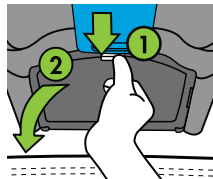

Figure 59
- Open LATCH Bin Door by pressing and holding top of Lock Tab then rotating LATCH Bin Door down, as shown in **Figure 59**.